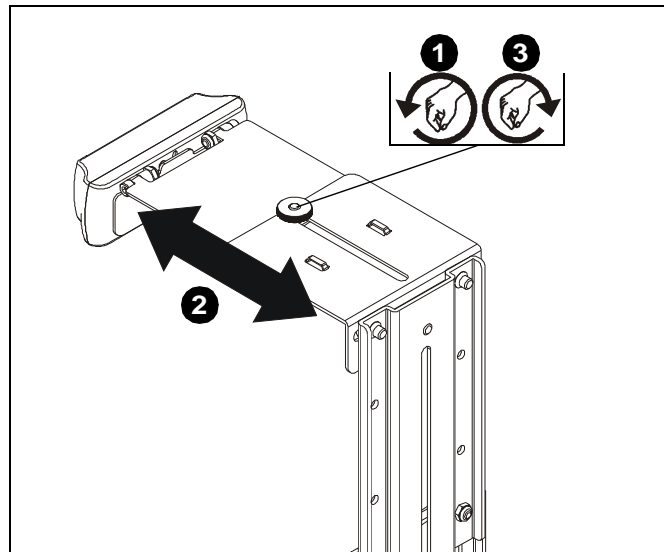

Figure 37
1. Loosen extension adjustment screw. (See Figure 37)
2. Adjust to desired extension length. (See Figure 37)
3. Tighten extension adjustment screw. (See Figure 37)